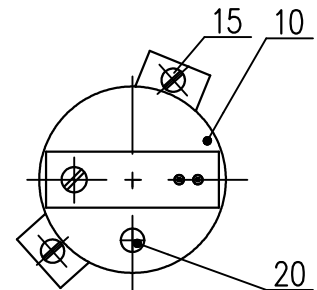

Fig.8
4.5 Adjustment of the Capacitive Transmitter CPT1/A (Fig.8)